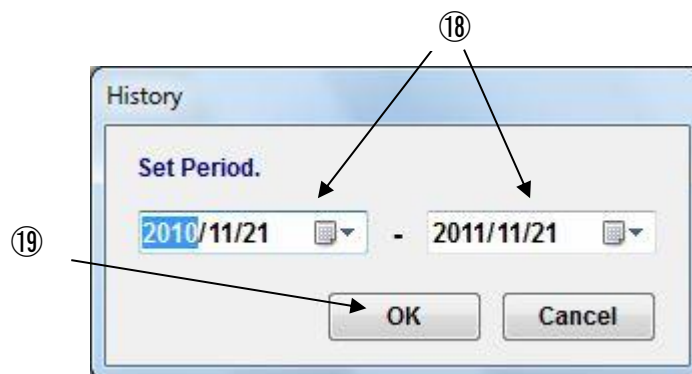

Fig.10-7 Period Setting Dialog
(17) Select [Period] and "Period Setting Dialog" (Fig.10-7) is displayed.
(18) Input period or select from calendar by [▼] to change period.
(19) Select [OK].
(20) All spare parts delivered in changed period is displayed again.